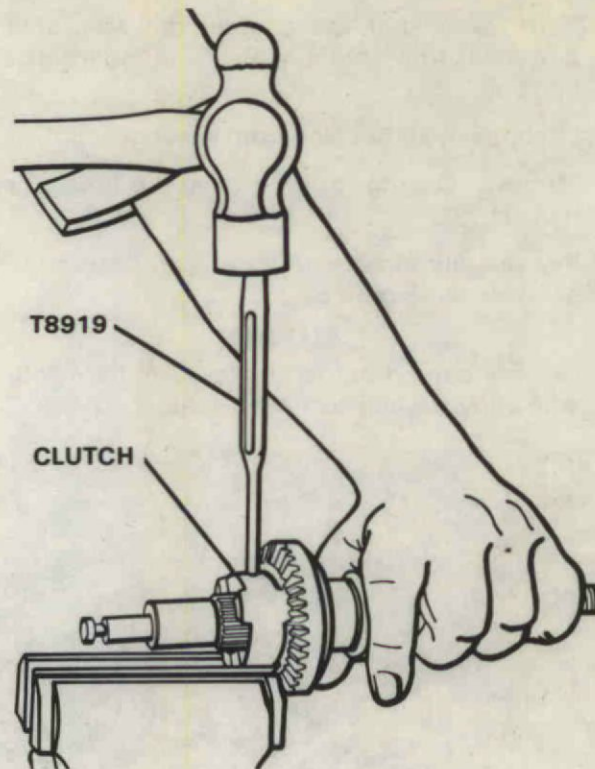

Figure 59. Removing Clutch and Shift Pin.
A. Drive out spring pin securing clutch to shift pin. Use punch (Special Tool No. T 8919). Figure 59.